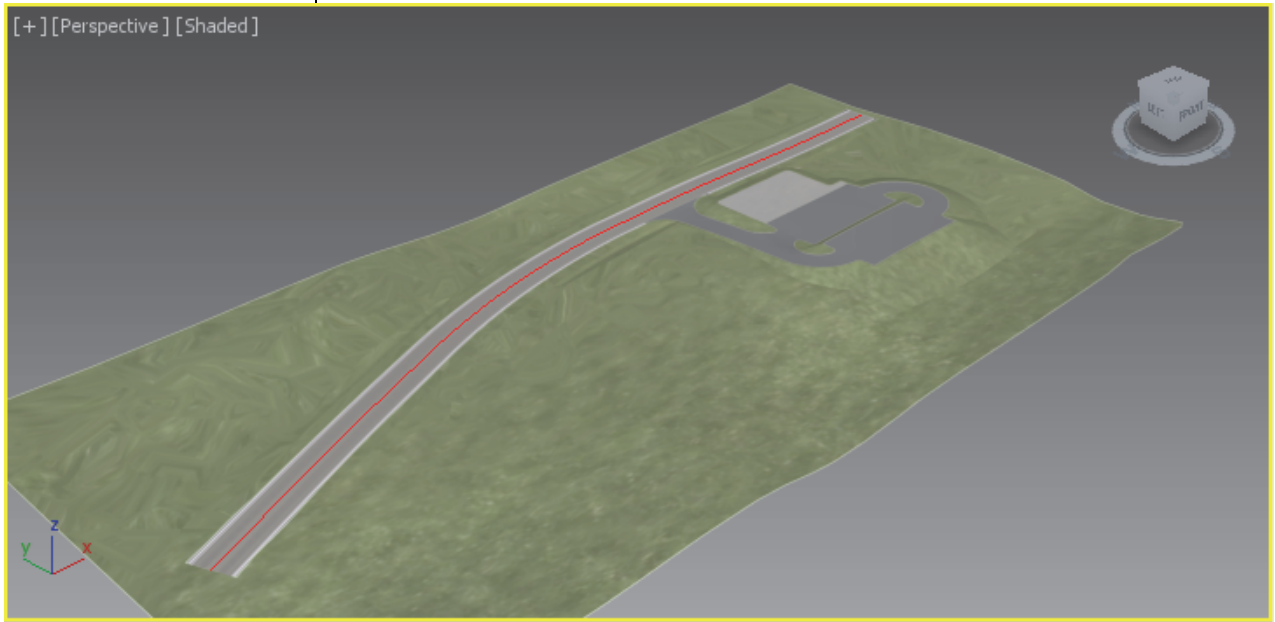

Figure 3–9
25. Click  (Zoom Extents All). In the Perspective view, the scene displays as shown in Figure 3–9.